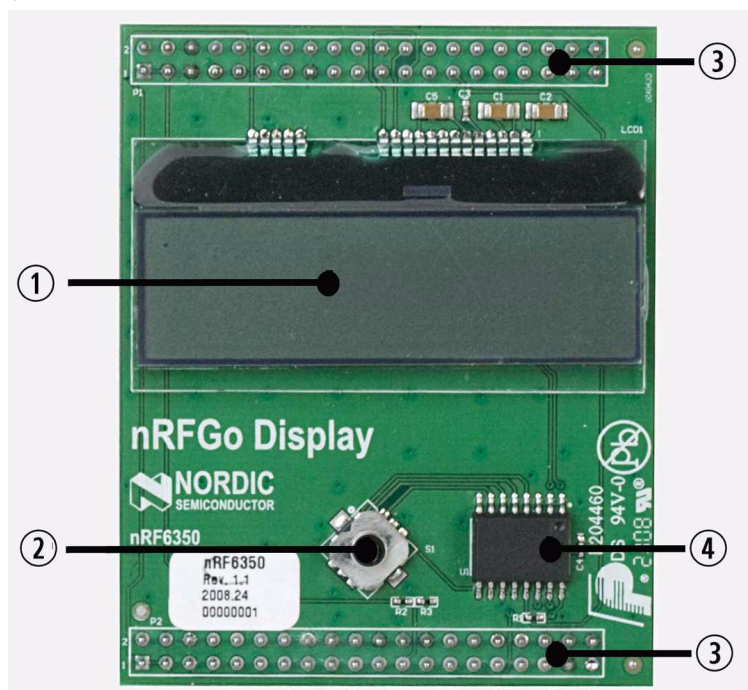

Figure 18. The Display module (nRF6350)
The 2x16 alphanumerical display (① in Figure 18.) uses 2 wire serial communication and is connected to the extension board socket 2-wire bus. This enables the display to be used by both the Motherboard main MCU or by any nRF development kit module that has a 2-wire master.
The joystick (② in Figure 18.) is connected to a 2-wire port extension IC (④ in Figure 18.), MAX7329 from Maxim. The 2-wire port extension IC uses the slave address 0x3F on the 2-wire bus and it also has an interrupt line that signals use of the joystick. This uses the spare1 line on the Extension Board connector (③ in Figure 18.).